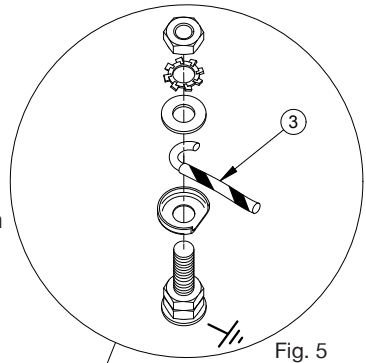

Fig. 5
4. Consolidate the stranded conductor ends by twisting and shape the earth conductor as shown in Fig. 5 (item 3).
5. Remove earth terminal post clamping components and assemble as shown in Fig. 5 ensuring shaped conductor is orientated as shown and all strands of the conductor are clamped between the washers.